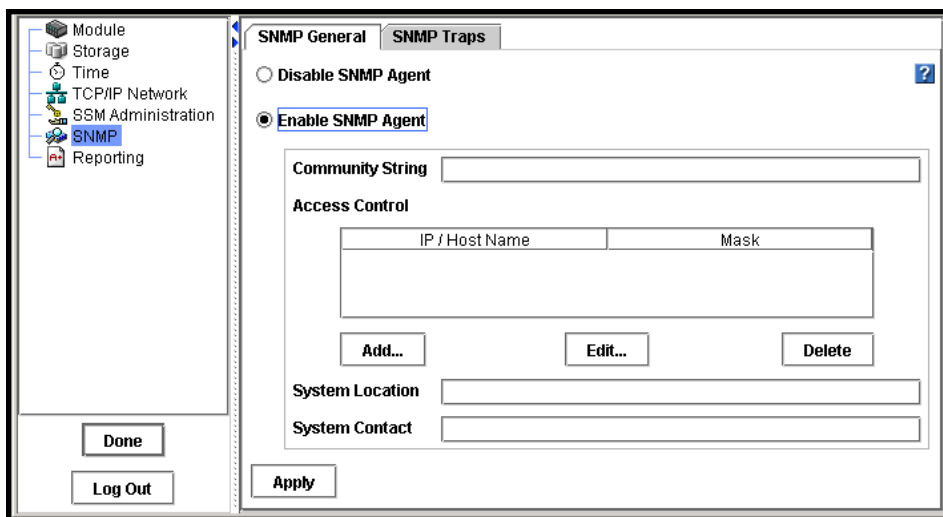

Figure 108. Enabling the SNMP Agent
3. Click Enable SNMP Agent. The Enable Agent fields become activated, shown in Figure 108.